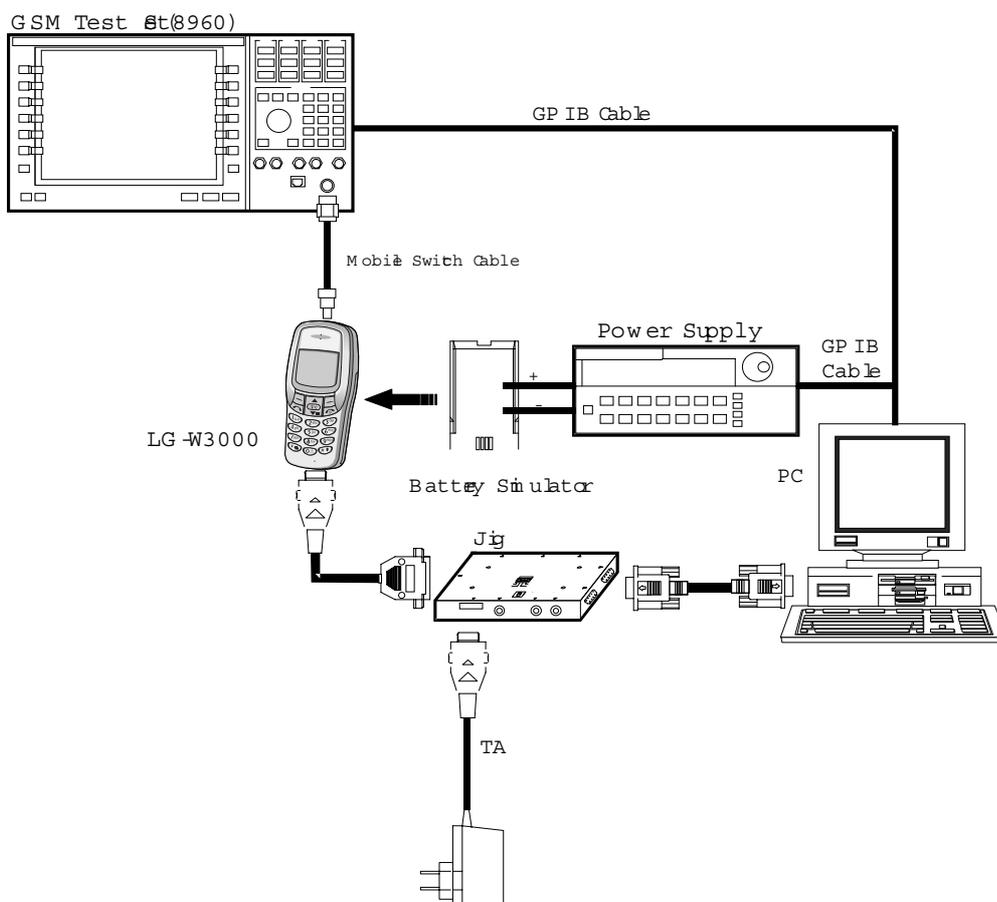

Figure 6-3. Equipment Setup.
1. Connect as **Fig. 6-3**. (RS232 Serial cable is connected between COM port of PC and MON port of TEST JIG, in general)